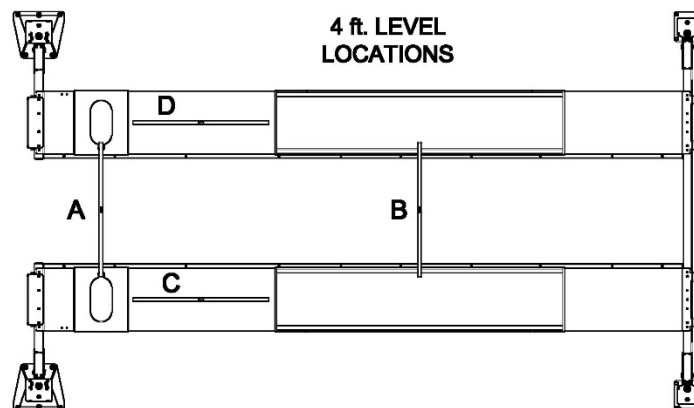

Fig 24 – 4 ft. Level Locations
69) Using a 4ft level placed at the following four different locations, find the highest corner of the lift, **Fig 24**: